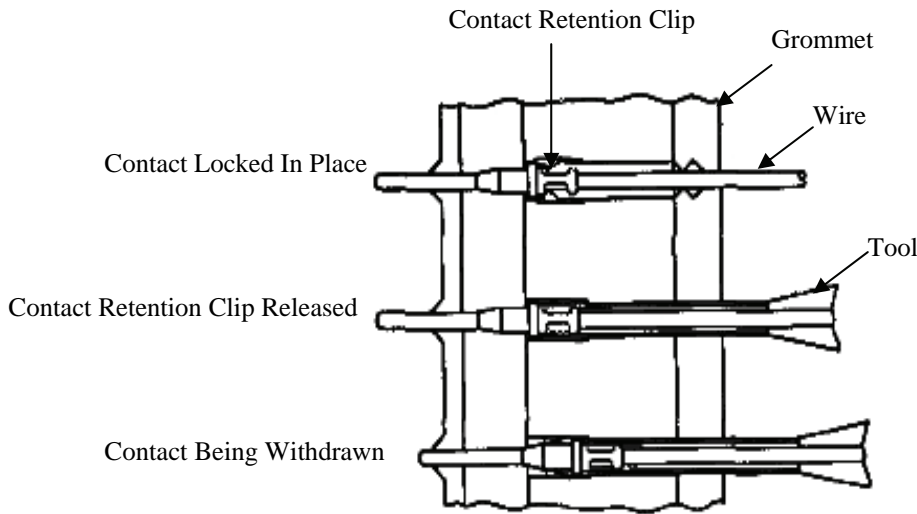

Figure 21. Unlocking Contact Mechanism
d. Insert tool into contact cavity until tool tip bottoms against contact shoulder (Figure 21). A slight increase in resistance will be noticed just before the tool tip bottoms. This will spread the retention clip and release its hold on the contact.